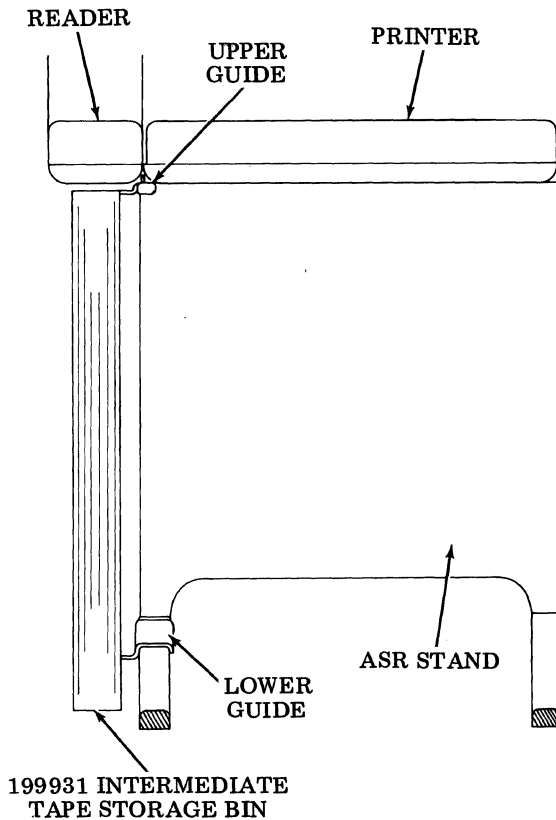

Figure 21 - 199931 Tape Storage Bin Modification
2.91 The 199931 modification kit provides an intermediate tape storage bin holding approximately 100 feet of perforated tape between the tape punch and the tape reader on the left side of a Model 33 ASR Set. See Figure 21.